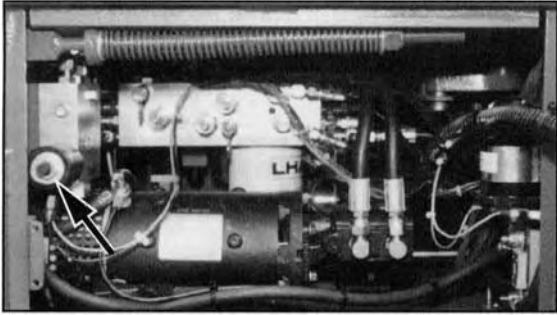

Figure 3: Emergency Lowering Valve
- 13) Check Level Sensor (Figure 3) operation by pushing the sensor off of level while pushing the Chassis Lift Switch to UP position, the alarm should sound.
- 15) Open the Chassis Emergency Lowering Valve (figure 3) to check for proper operation by pushing on the knob and turning 1/4 turn counterclockwise. Once the platform is fully lowered, close the valve by pushing in and turning the knob 1/4 turn clockwise until the detent engages.
Ask a person on the ground to open the Emergency Lowering Valve (Figure 3) to lower the platform. This valve is located inside the right module: